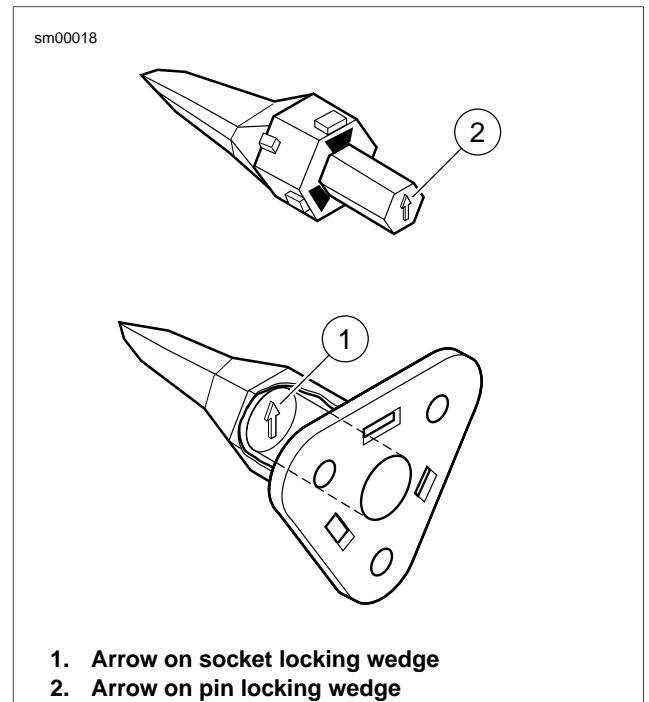

Figure A-19. Deutsch Connector: 3-Place Locking Wedges
- See Figure A-19. While rectangular wedges do not require a special orientation, the conical secondary locking wedge of the 3-place connector must be installed with the arrow (1) pointing toward the external latch.
- See Figure A-19. While rectangular wedges do not require a special orientation, the conical secondary locking wedge of the 3-place connector must be installed with the arrow (2) pointing toward the external latch.